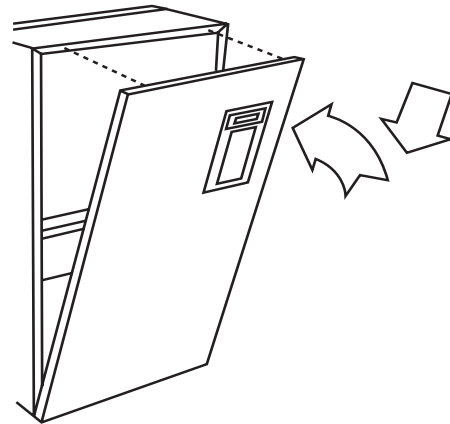

Fig. 15 - Furnace Door Replaced
7. Replace main furnace door. (See Fig. 15.)